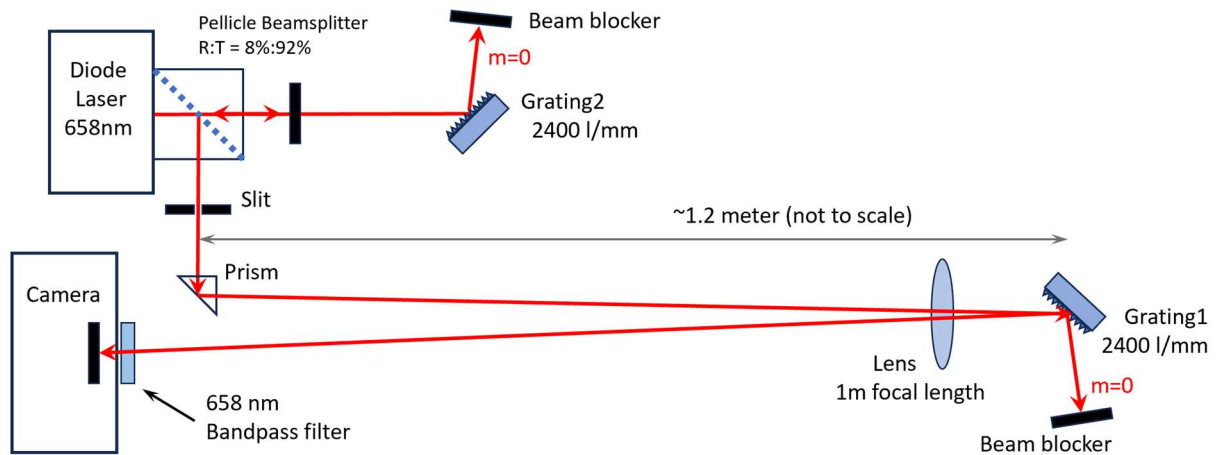
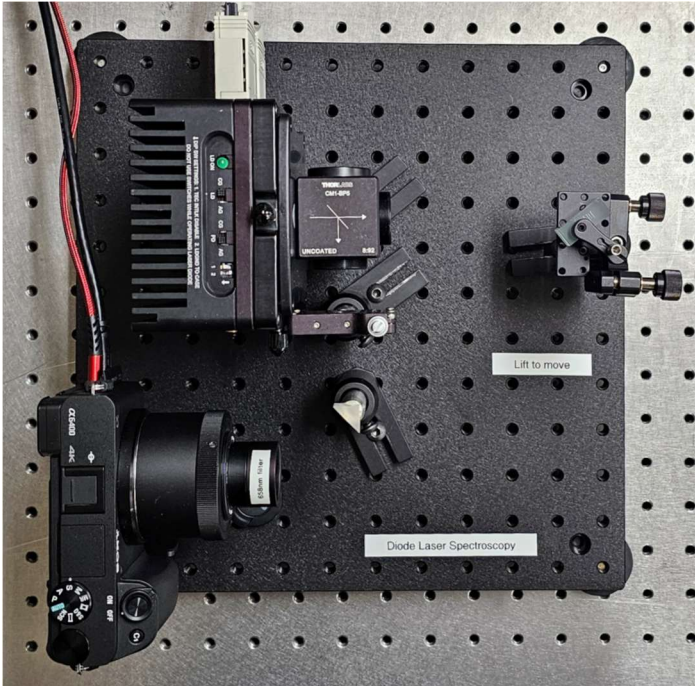

Figure 9. The optical layout for examining the diode laser spectrum.
Figure 10. The Diode Laser Spectroscopy hardware in the lab.
Your next steps involve setting up some optics to observe the diode-laser behaviors described in the previous section. Figure 9 shows the overall optics layout, and many parts of this setup are already assembled for you (just to save time), as shown in Figure 10. Several of these optical elements are a bit tricky to align, and these are held down using black screws that require a smaller wrench than what you have on the optical table. Best to leave these optical elements unchanged unless you know what you are doing.
As can be seen in Figure 10, the camera lens has been replaced by a short tube, and a 658nm bandpass filter is attached to the end of the tube. If this filter is not already attached, you should be able to find it in a labeled box on or near the breadboard. Attach it as shown, and please screw it in *gently*; it needs to come off again later. This filter blocks most of the room lights while letting the 658nm laser light pass through with little loss. Without this filter, the room lights would interfere with the laser signal.
To make room for the lens and Grating1 in Figure 9, you may need to lift & place the LIDAR breadboard back on the optical table (where it fits under the shelf) without disconnecting any of its cables. Then place Grating1 about 1.2 meters from the camera, as shown in Figure 9, but without the lens. Adjust the grating so that the $m=1$ back-reflected light produces a diffuse line of red light on the camera sensor, as shown at the top of Figure 11. To help align the grating, turn the laser current up to 60mA and try sending the prism output beam through a small hole in a white card placed fairly close to the grating. You should then see the back-reflected beam on the other side of the card, and you can send it back through the hole. Once you locate the back-reflected beam this way, it is usually straightforward to get the beam into the camera. Note that the direct ($m=0$) reflection off the grating in Figure 9 is at about 100 degrees, while the $m=1$ retroreflected beam can be quite faint.
Figure 12. When analyzing your spectrum, use this approximation of the optical layout in Figure 9. Making the input and output grating angles are nearly identical simplifies the calculation with little loss of accuracy.
- 3) Calculate the grating angle (relative to the normal vector perpendicular to the grating surface) in this case. Start with the grating equation: $d(\sin\theta_{in} + \sin\theta_{out}) = m\lambda$, where d is the spacing between the grooves of the grating, θ_{in} and θ_{out} are the input and output angles, and $m = 1$ for the case shown in Figure 9 and Figure 12. Call this angle $\theta_{Littrow}$.
Your next step is to uncover Grating2 to realize the full optical set up shown in Figure 9. The trickiest part now is to align the grating angle so that the beam retroreflects back into the laser. Because the laser channel is just a few microns in cross-section, this is a small target to hit, making for a challenging alignment task. As you did with Grating1, you might try inserting a white card with a small hole into the beam and look for the retroreflected beam on the other side of the card. This will not be sufficient to hit the laser channel, but at least it will get you headed in the right direction.